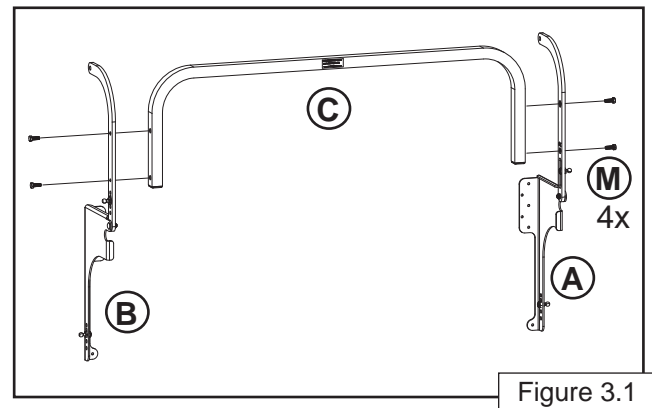

Figure 3.1
1. Locate the Right & Left Pivot Assemblies, Crosslink and (4) ¼"-20 Hex Bolts (Figure 3.1).
2. Orient (Figure 3.1) on floor and attach A and B to C using (4) ¼"-20 Hex Bolts (M).